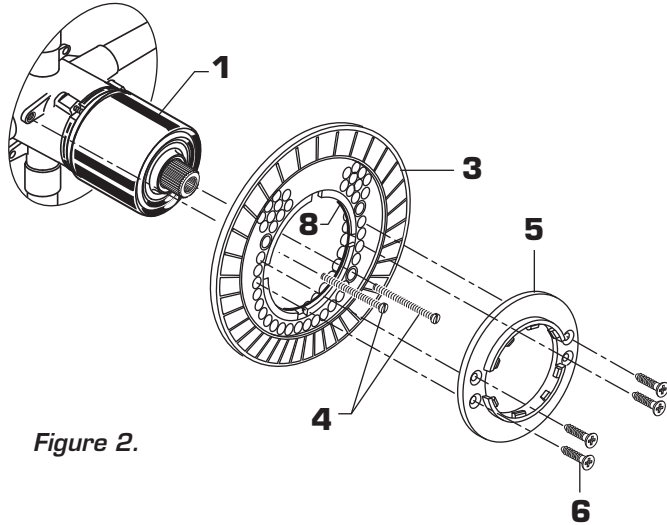

Figure 2.
- **Figure 2.** Make sure O-RING (8) is secure within ESCUTCHEON HOLDER (3). Push ESCUTCHEON HOLDER (3) onto CAP (1) and attach with LONG SCREWS (4). Mount ESCUTCHEON SUPPORT (5) to ESCUTCHEON HOLDER (3) with 4 SHORT SCREWS (6).